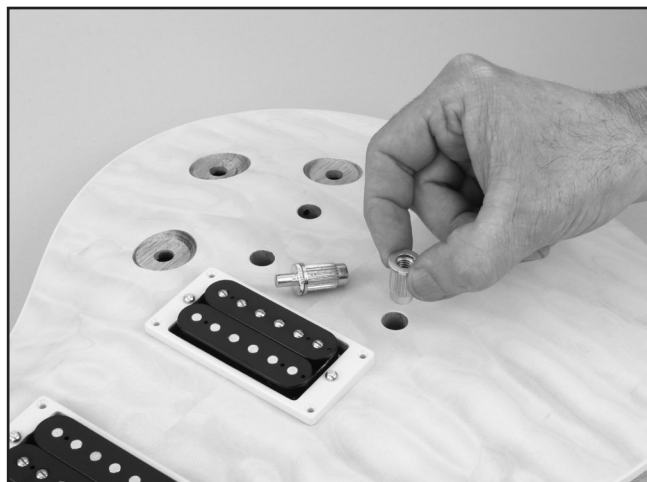

Figure 23. Threaded insert placement.
1. Place two inserts into the forward holes as shown in **Figure 23**.